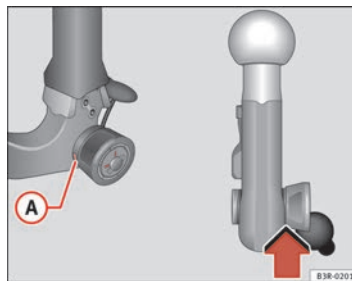

Fig. 168 Removable towing bracket: Safety check
- Check that the green marking **A** ⇒ page 206, fig. 168 on the knob is inside the black zone marked on the ball joint.